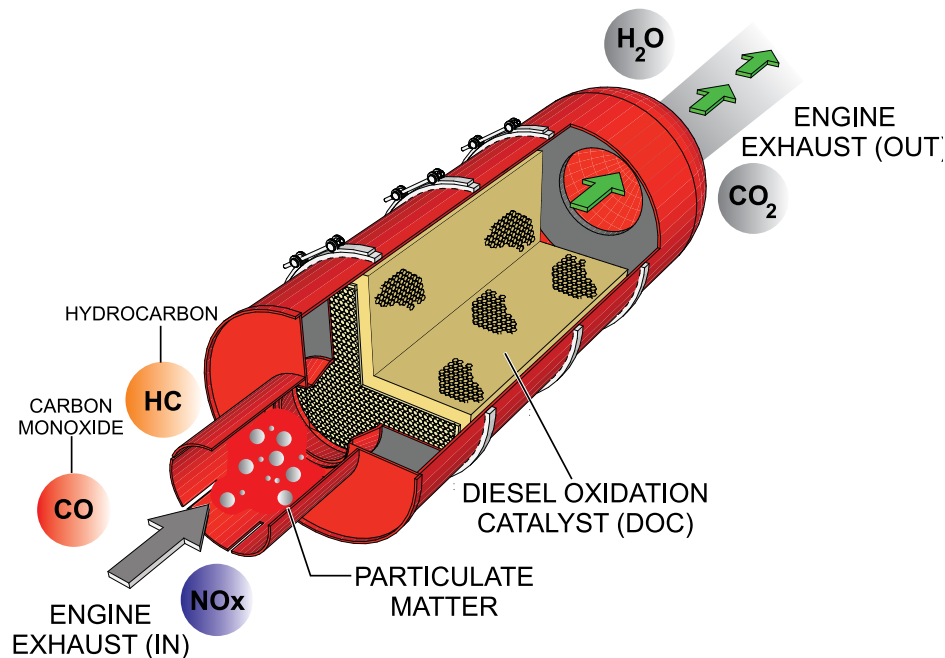

Figure 66. Diesel Oxidation Catalyst (DOC)
The DOC device (Figure 66) helps in filtering out large amounts of harmful Nitrogen Oxides (NOx) and Particulate Matter (PM) which are emitted by diesel engines. These exhaust emissions pose serious environmental and health risks. It is important to maintain and service the DOC emission safety device on a periodic basis.